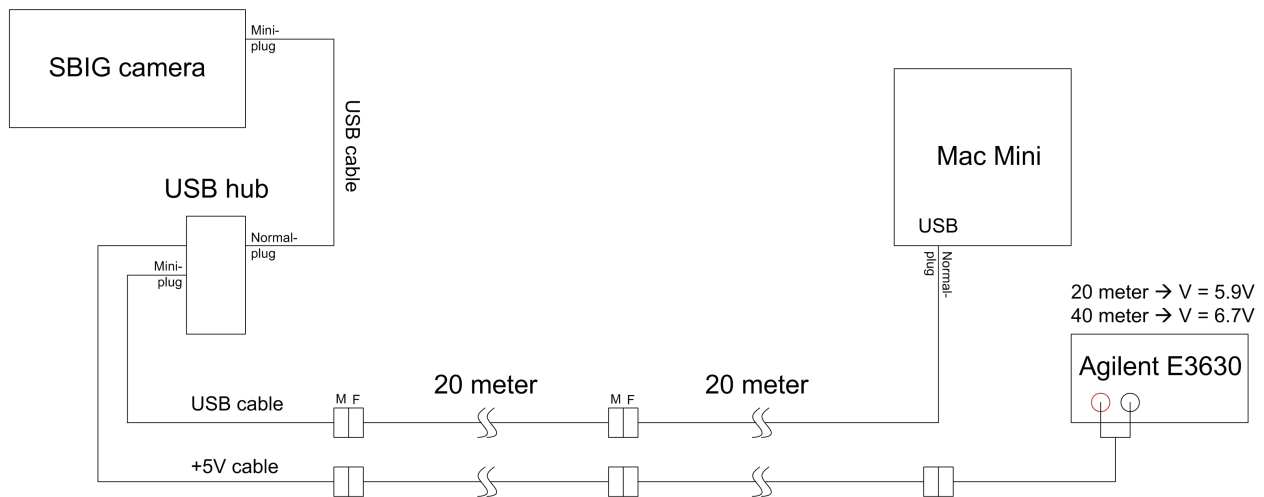

Fig. 3 – Mac Mini to SBIG camera interconnect diagram. Note the different voltage settings for 20m and 40m.
Fig. 3 represents the electrical interconnect diagram. We have made accommodations for two 20-meter extension segments that may be connected in cascade if necessary. Each USB extension cable contains an active repeater and support USB 2.0 data transfer speeds (480 Mbps). Both the 20-meter and 40-meter links have been tested to be reliable with the SBIG camera.
- If using a single 20-meter segment, it is sufficient to use the small DVE switching power adapter that plugs into a 120 VAC outlet. However, when using two 20-meter segments in cascade, it is necessary to use the external Agilent supply as indicated in *Fig. 3*¹. When using either the 20-meter or 40-meter extension segments, please use the external Agilent power supply as shown in *Fig. 3*.